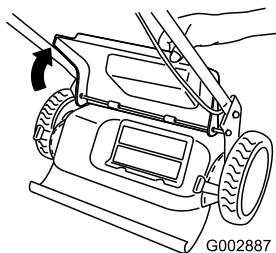

Figure 25
1. Raise and hold up the rear door (Figure 25).